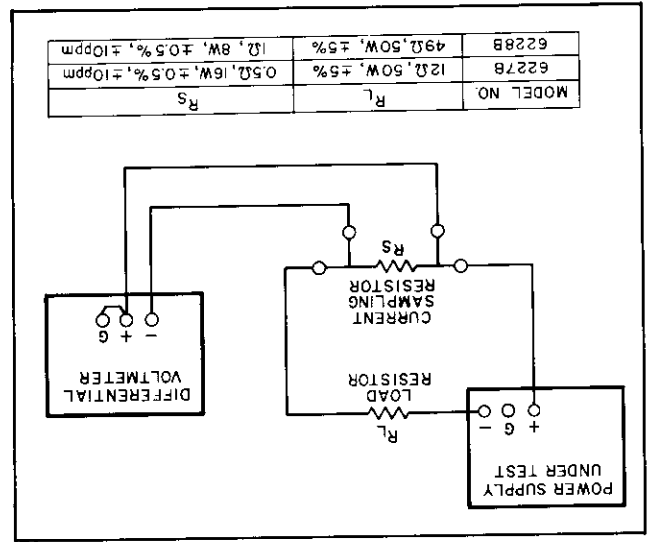

Figure 5-11. Constant Current Load Regulation Test Setup
a. Connect test setup shown in Figure 5-11.
e. Short circuit load resistor (RL).
- Utilize test setup shown in Figure 5-11.